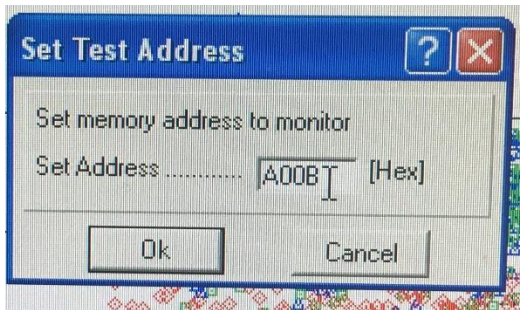

Figure 8: The Instrument Address Code
16. Click on the Edit Test button. If you are testing 828DEA, set every variable to be equal to the ones in Figure 8. If you are testing any other material, set “Initial Temp” to 30 degrees F above the material’s Tg, “Final Temp” to approximately 40 degrees F below the Tg, and all other variables to the ones in Figure 8.